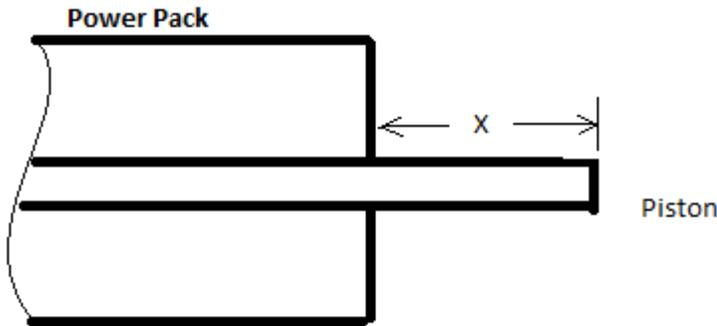
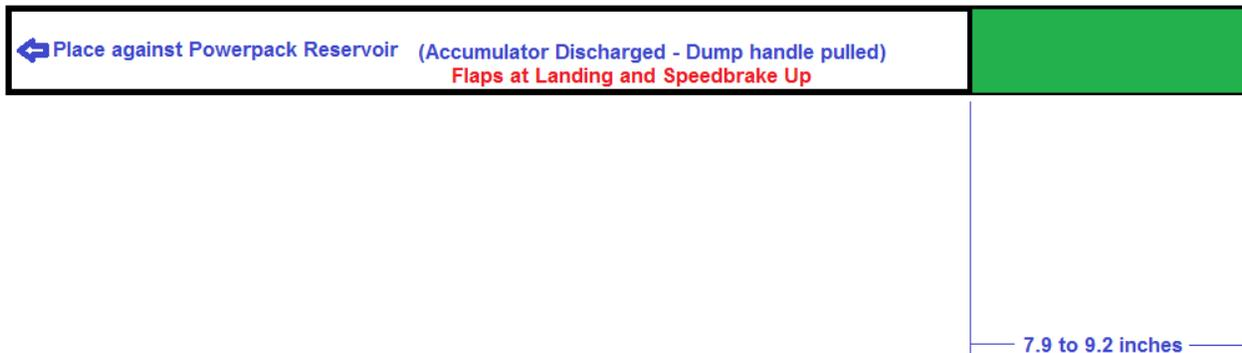
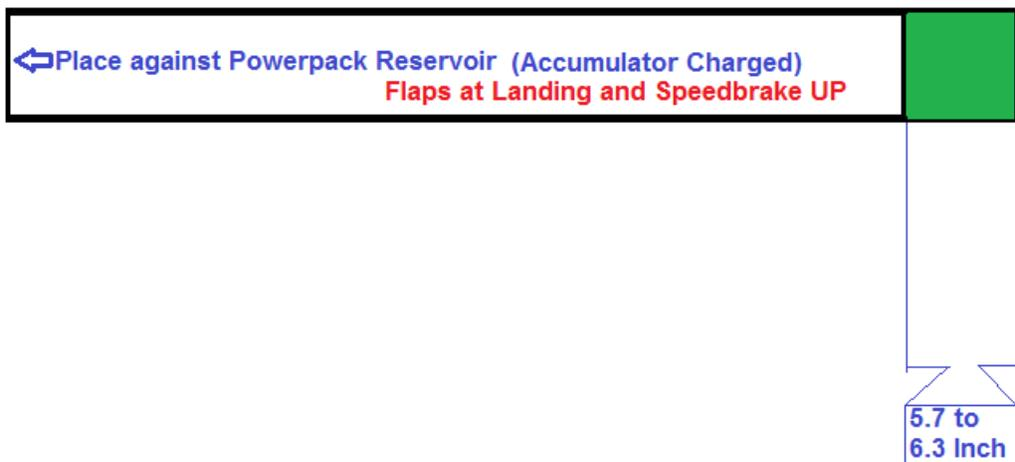

Figure 1.
Figure 2. Power Pack Piston Measurement Tool - Accumulator Discharged (AD).
Figure 3. Power Pack Piston Measurement Tool - Accumulator Charged (AC)
3. Ensure the Power Pack Piston Measurement Tools (Accumulator Discharged (AD), figure 2 and Accumulator Charged (AC) figure 3 below) are locally manufactured and marked exactly as shown in figures 2 and 3 below. Ensure all Power Pack Piston Measurement Tools are locally serialized and logged by serial number, location and the last date each tool's measurement lengths were verified. Verification is accomplished locally at the Organizational (O) Level using a steel rule. Per NAVAIR 17-35MTL-1, NAVSEA OD 45845, dated 01 January 2011, Metrology, Section 2, Rules require no calibration. Entry of the Power Pack Piston Measurement Tools into the METCAL system is not required. These measurement Tools must be entered into and tracked in accordance with the contractor's tool control program.
- d. Using the Power Pack Piston Measurement Tool, (Accumulator Discharged (AD), figure 2 below), measure the extended piston length on power pack (see figure 1 below). When properly serviced, the piston length is 7.9-9.2 inches.
- c. Where the T-6 MIMs procedure calls for inspecting the site tube for proper servicing, instead measure the length of the power pack piston (figure 1 below) using the appropriate Power Pack Piston Measurement Tool (figure 2 or 3 below).
- (1) Accumulator Discharged (AD) Measurement Tool (figure 2 below): Full Piston Range: 7.9 - 9.2 inches (Mule disconnected and accumulator fully discharged (AD)).
- (2) Accumulator Charged (AC) Measurement Tool (figure 3 below): Full Piston Range: 5.7-6.3 inches (ensure accumulator is fully charged (AC)).
Power Pack Piston Measurement Tool - Accumulator Discharged (AD) (figure 2): With Flaps at LANDING and the speed brake UP, and the Power Pack Piston Measurement Tool against the power pack, the piston rod length must be in the measurement tool's green band with accumulator discharged. If not in the green band or beyond the green band, the Power Pack Reservoir shall be serviced and rechecked.
Power Pack Piston Measurement Tool - Accumulator Charged (AC) (figure 3): With the Flaps at LANDING and the speed brake UP, and the Power Pack Piston Measurement Tool against the power pack, the piston rod length must be in the tool's green band with the accumulator charged. If not in the green band or beyond the green band, the Power Pack Reservoir shall be serviced and rechecked.